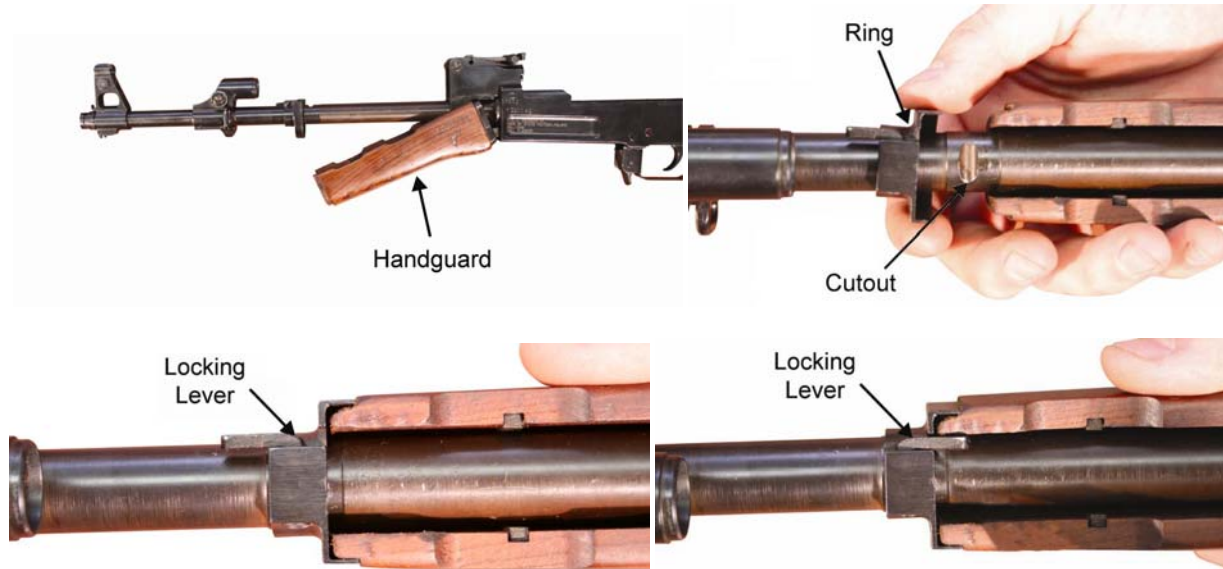

Figure 15. Installing the Handguard.
2. To install the handguard, seat it under the barrel, slide the ring onto the front of the handguard ensuring it is secure on the barrel cutout, and swing the locking lever rearward until it lays flush with the handguard. Refer to Figure 15.